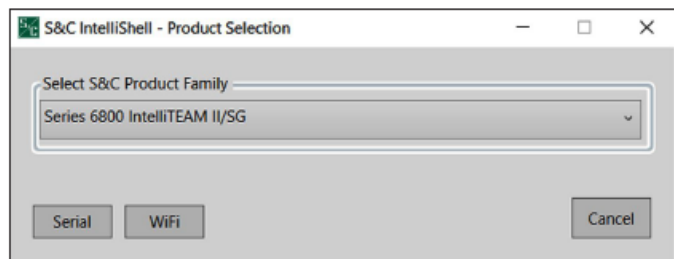

Figure 13. The S&C Electric IntelliShell—Product Selection dialog box.
- **STEP 2.** Select the Series 6800 IntelliTeam II/SG option to update a 6801M Switch Operator. Click on either the Serial or Wi-Fi button based on the communication method used to connect to the control. See Figure 13.